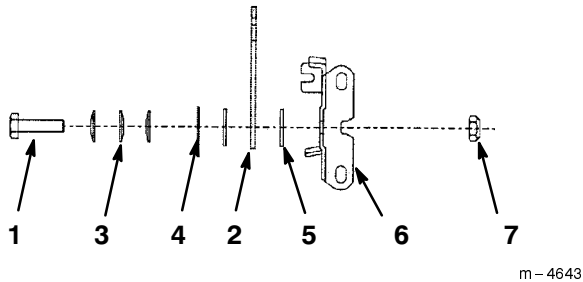

Figure 60
3. Tighten nut and bolt. Test lever and adjust to desired tension (Fig. 60).